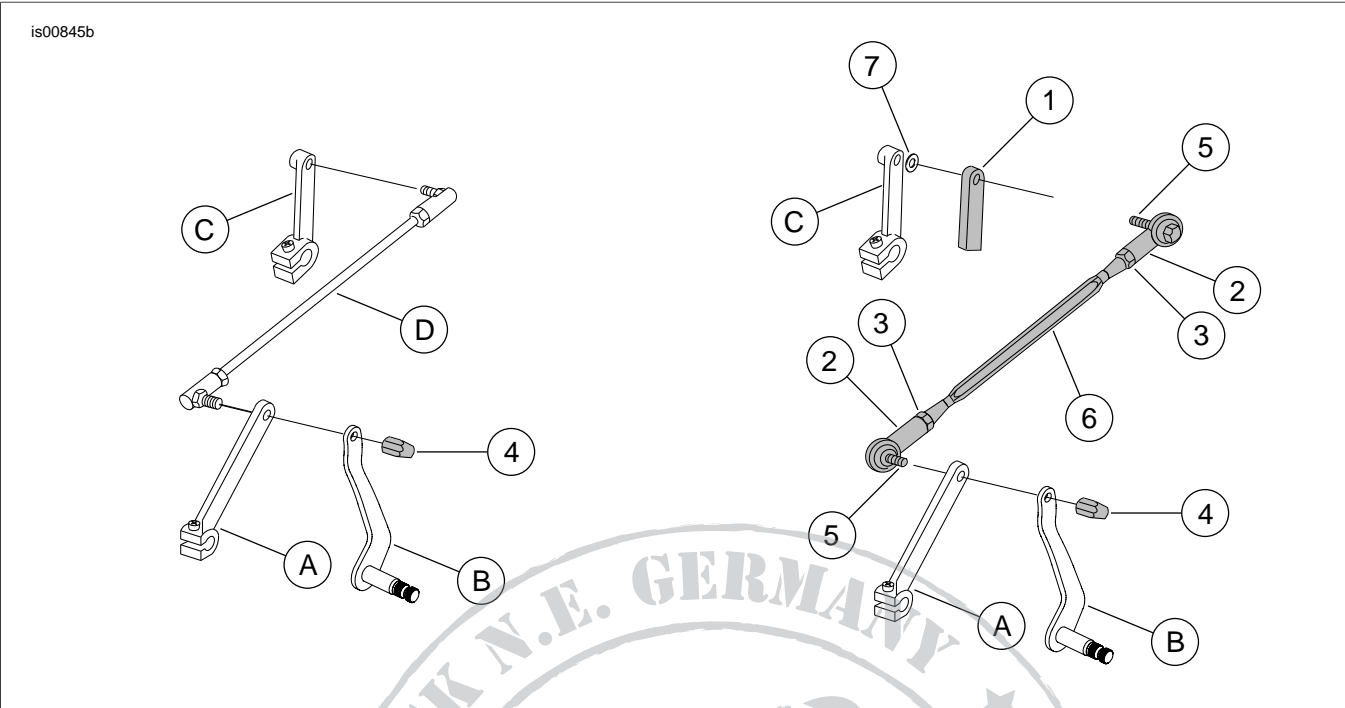

Figure 1. Service Parts: Aluminum Shifter Linkage
See Figure 1 and Table 2.
1. See Figure 1. Remove stock shifter rod (D).
2. Adjust new shifter rod in kit to match the length of the removed shifter rod by loosening locknuts (3), adjusting the length of the rod, then tightening locknuts to 20-24 ft-lbs (27-32 Nm).
3. **For models with a straight rear shifter rod lever:** Discard spacer (7). Place cover (1) over the shifter rod lever (C).